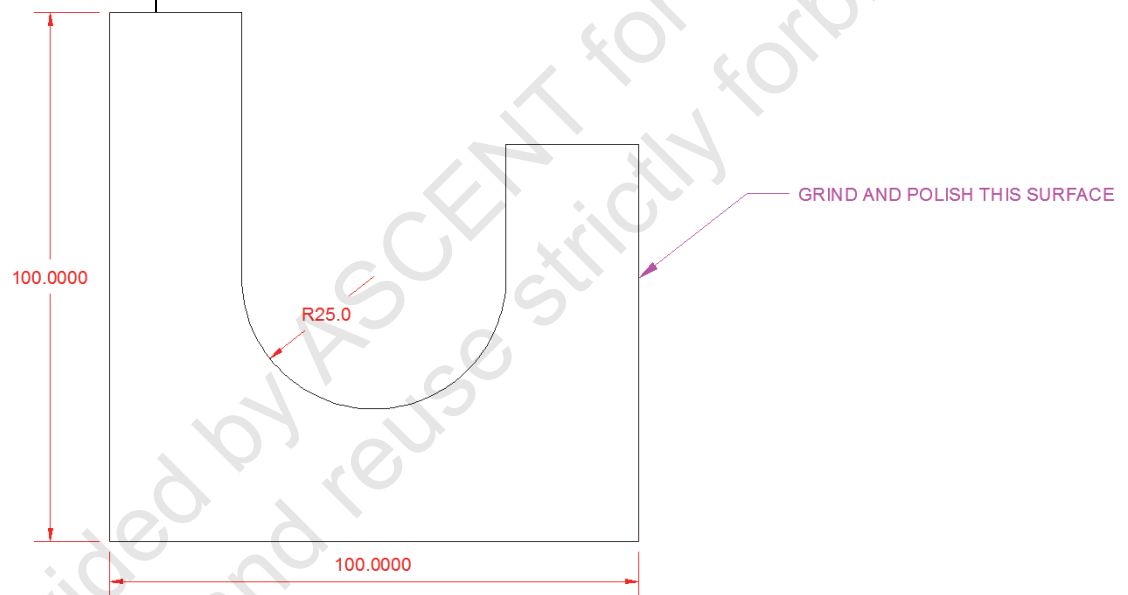

Figure 1–1
In this practice, you will draw, edit, and dimension a simple cross-section using a variety of tools (such as drawing aids and shortcut menu options), as shown in Figure 1–1. The purpose of this practice is to familiarize you with the style of the practices in this training guide and to review how to use the AutoCAD software.
13. Create a linear dimension on the bottom of the object and a radius dimension on the arc, as shown in Figure 1–1. When you are done dimensioning, press <Esc> to end the dimension command.